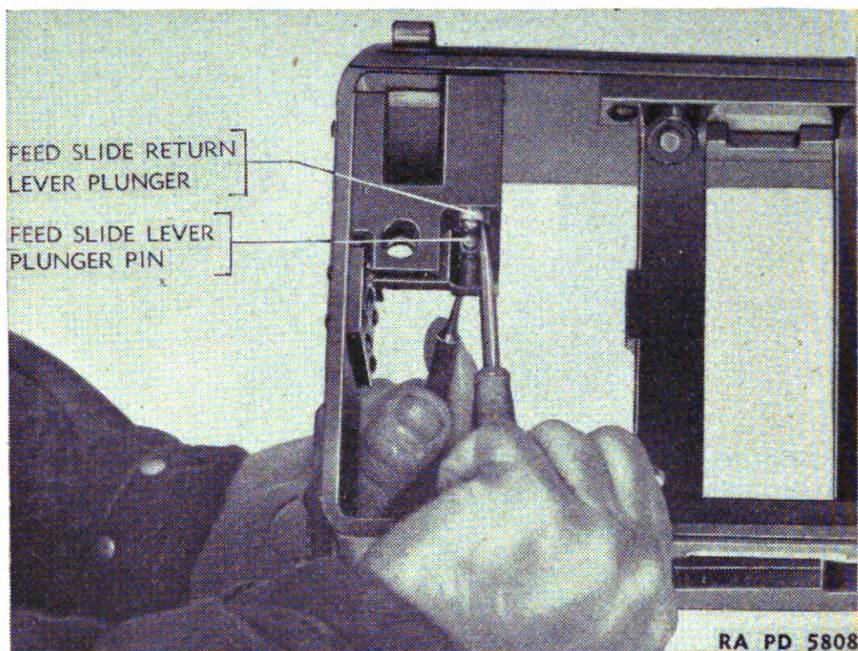

FIGURE 70.—Removal of feed slide return lever plunger.
*i. Cartridge feeder pawl connector shaft assembly.*—(1) Remove cotter pin.
(2) Unscrew cartridge feeder pawl handle.
(3) Remove cartridge feeder pawl spring.
(4) Remove cartridge feeder pawl connector shaft assembly.
*j. Feed slide return lever plunger.*—(1) Depress feed slide return lever plunger with a screw driver and at the same time push out feed slide lever plunger pin (fig. 70).